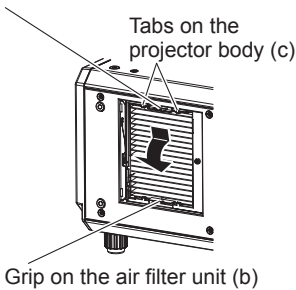

Fig. 4
- i) Pull out the air filter unit from the tabs on the projector body (c) while slightly pressing the grip on the air filter unit (a) inward as described with the arrow. **(Fig. 4)**